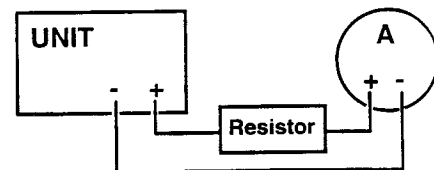

fig. 2
- 1 Connect a resistor and ammeter to the unit in series** (see fig. 2)